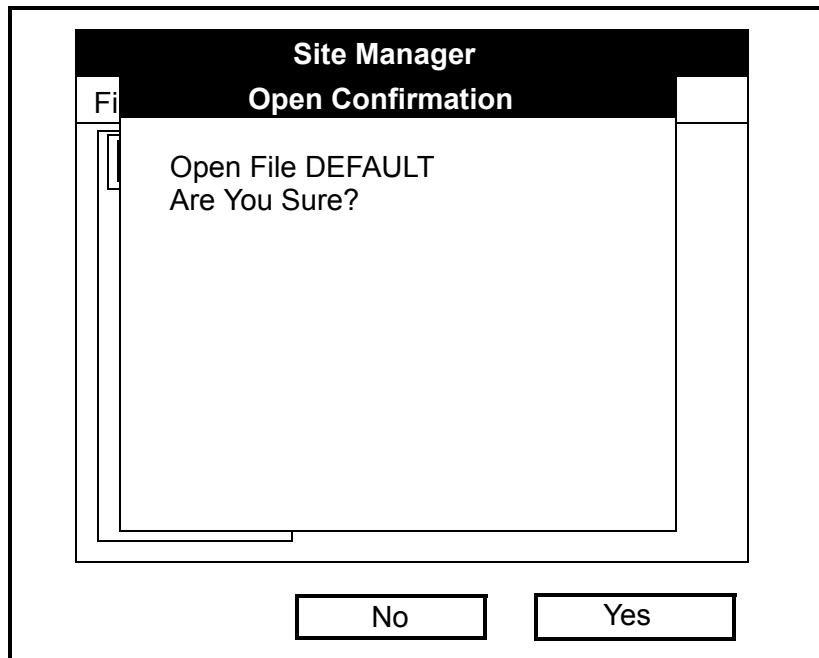

Figure 4-6: The Open Site Confirmation Window
3. Scroll to the *Open* option, and press [ENTER]. A window similar to Figure 4-6 below opens.